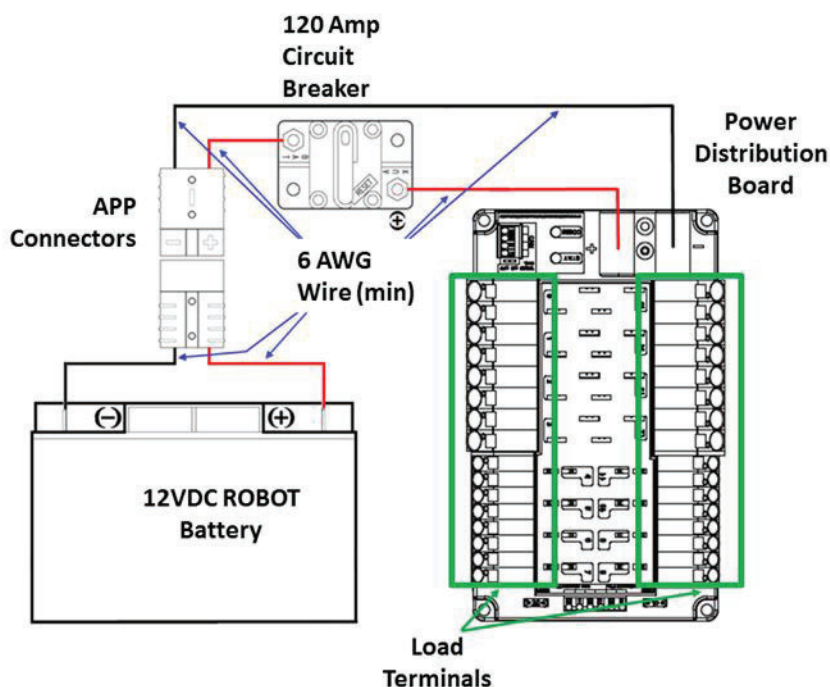

Figure 10-9 Electrical connection diagram
**R47.** The one (1) ROBOT battery, a single pair of Anderson Power Products (or APP) 2-pole SB type connectors, the one (1) main 120-amp (120A) surface mount circuit breaker (Cooper Bussman P/N: CB185-120, CB185F-120, CB285-120), and the one (1) CTR Electronics Power Distribution Panel (PDP, P/N: am-2856, 217-4244, 14-806880) shall be connected with 6 AWG (7 SWG or 16 mm2) copper wire or larger, with no additional devices or modifications, as shown in Figure 10-9.
**R48.** All circuits, with the exceptions of those listed in R53 and R55, must connect to, and have power sourced solely by, a single protected 12VDC WAGO connector pair (i.e. the Load Terminals, as shown in Figure 10-9) of the one (1) CTR Electronics Power Distribution Panel, not the M6 cap screws.